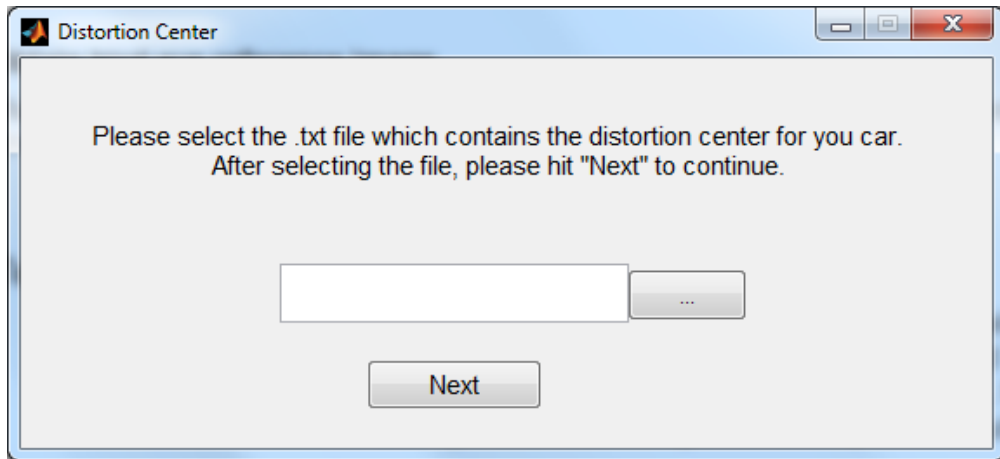

Figure 9 – Calibration Tool start window.
1. By running "calibration\_tool.exe" in folder ./calibration\_tool/, first you will see the windows shown in Figure 9. It will ask you to select the .txt file which contains the distortion center. For Jeep No. 1 – 8, the files have